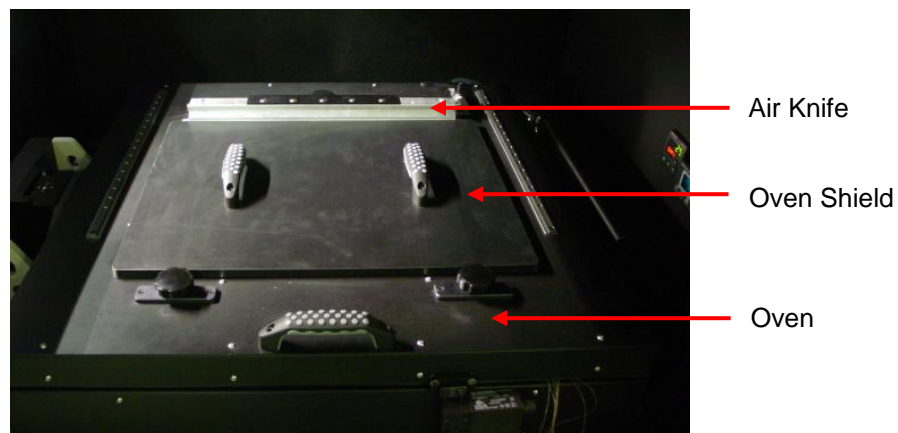

Figure 2.1 Oven Shield over the TherMoiré Oven Lid
4. Place the oven shield on top of the oven lid. Then, carefully push the oven shield back until it touches the air knife as shown in **Figure 2.1**.
7. Place the DIC assembly support (Common Crossbar Mount Support with two Carriage Assembly Support Triangles) onto the two glide rails located on two sides of the oven lid (**Figure 2.1**). Align the whole assembly such that the cameras will be viewing the sample location. Attach them with three ¼-20 aluminum thumbscrews each. Make sure that the triangles are seated over the glide rails properly before tightening the thumbscrews.
5. Place the Oven Shield on top of the oven lid as shown in **Figure 2.1**.